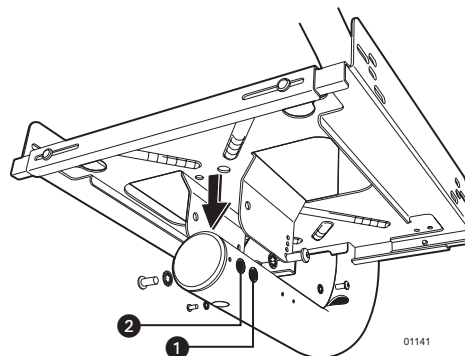

Figure 3. Attach Rack to Mount Arm
- Place the monitor rack onto the bottom of the mount arm. Refer to Figure 3 and do the following to properly position the rack on the mount arm: